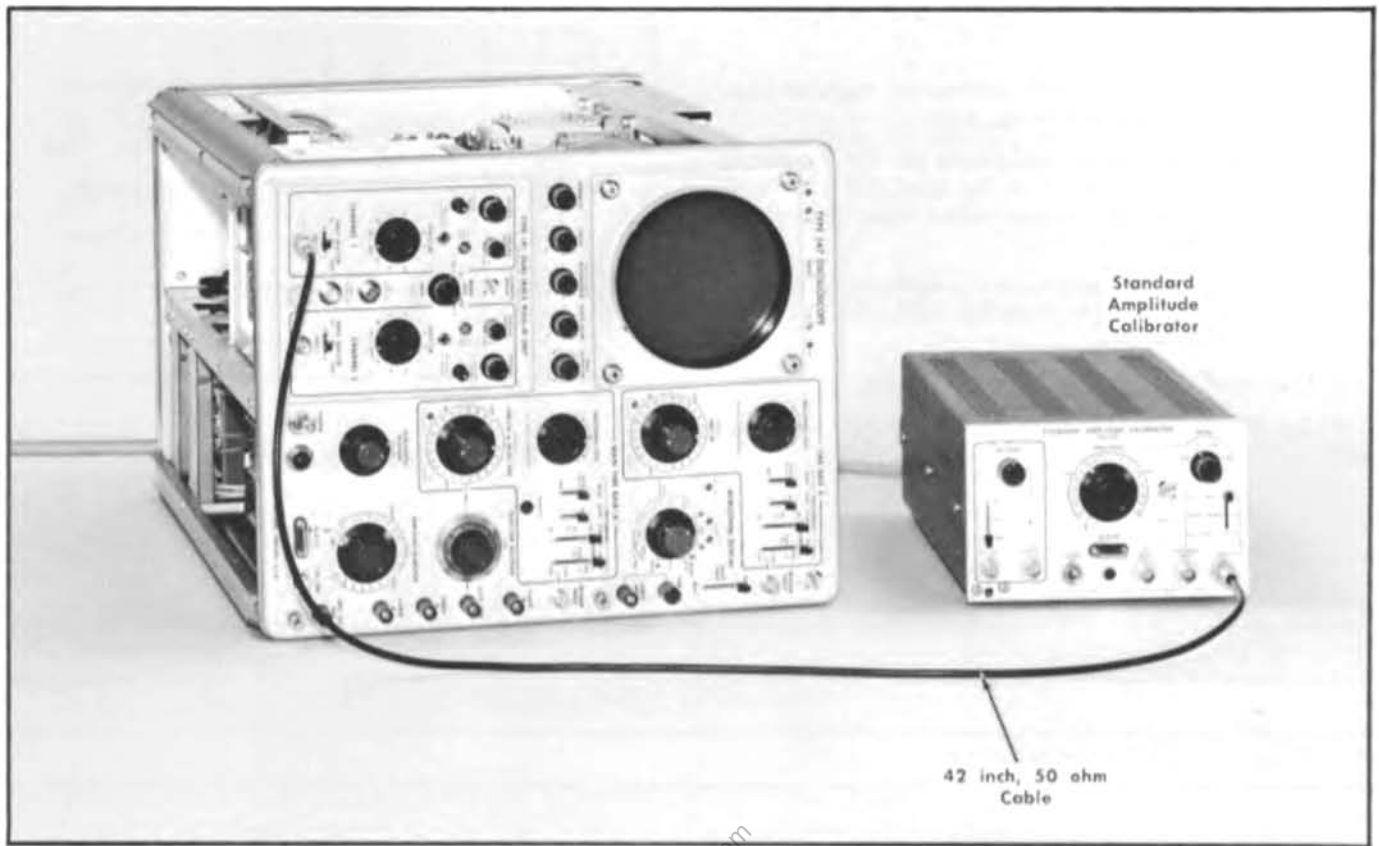

Fig. 7-23. Test equipment setup for step 20.
- a. Test equipment setup, with connections made at completion of step 20b, is shown in Fig. 7-23.